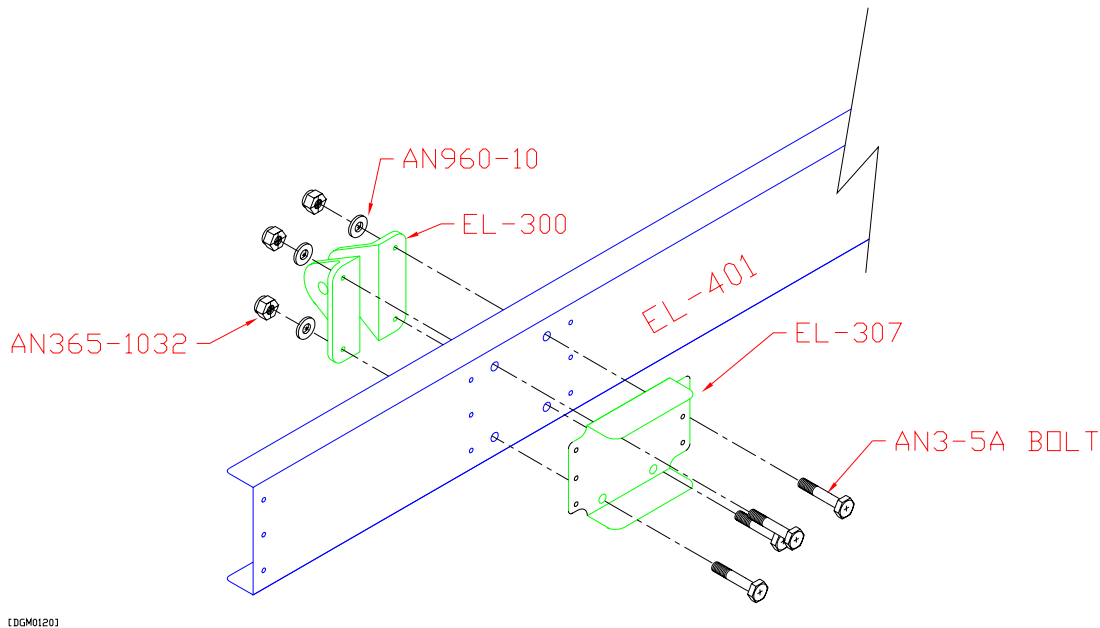

Figure 3.2.2
- 5) Attach the Elev/Rud Hinge Doubler and Elev/Rud Hinge with AN3-4A Bolt. Figure 3.2.2. Repeat for the other end of spar.